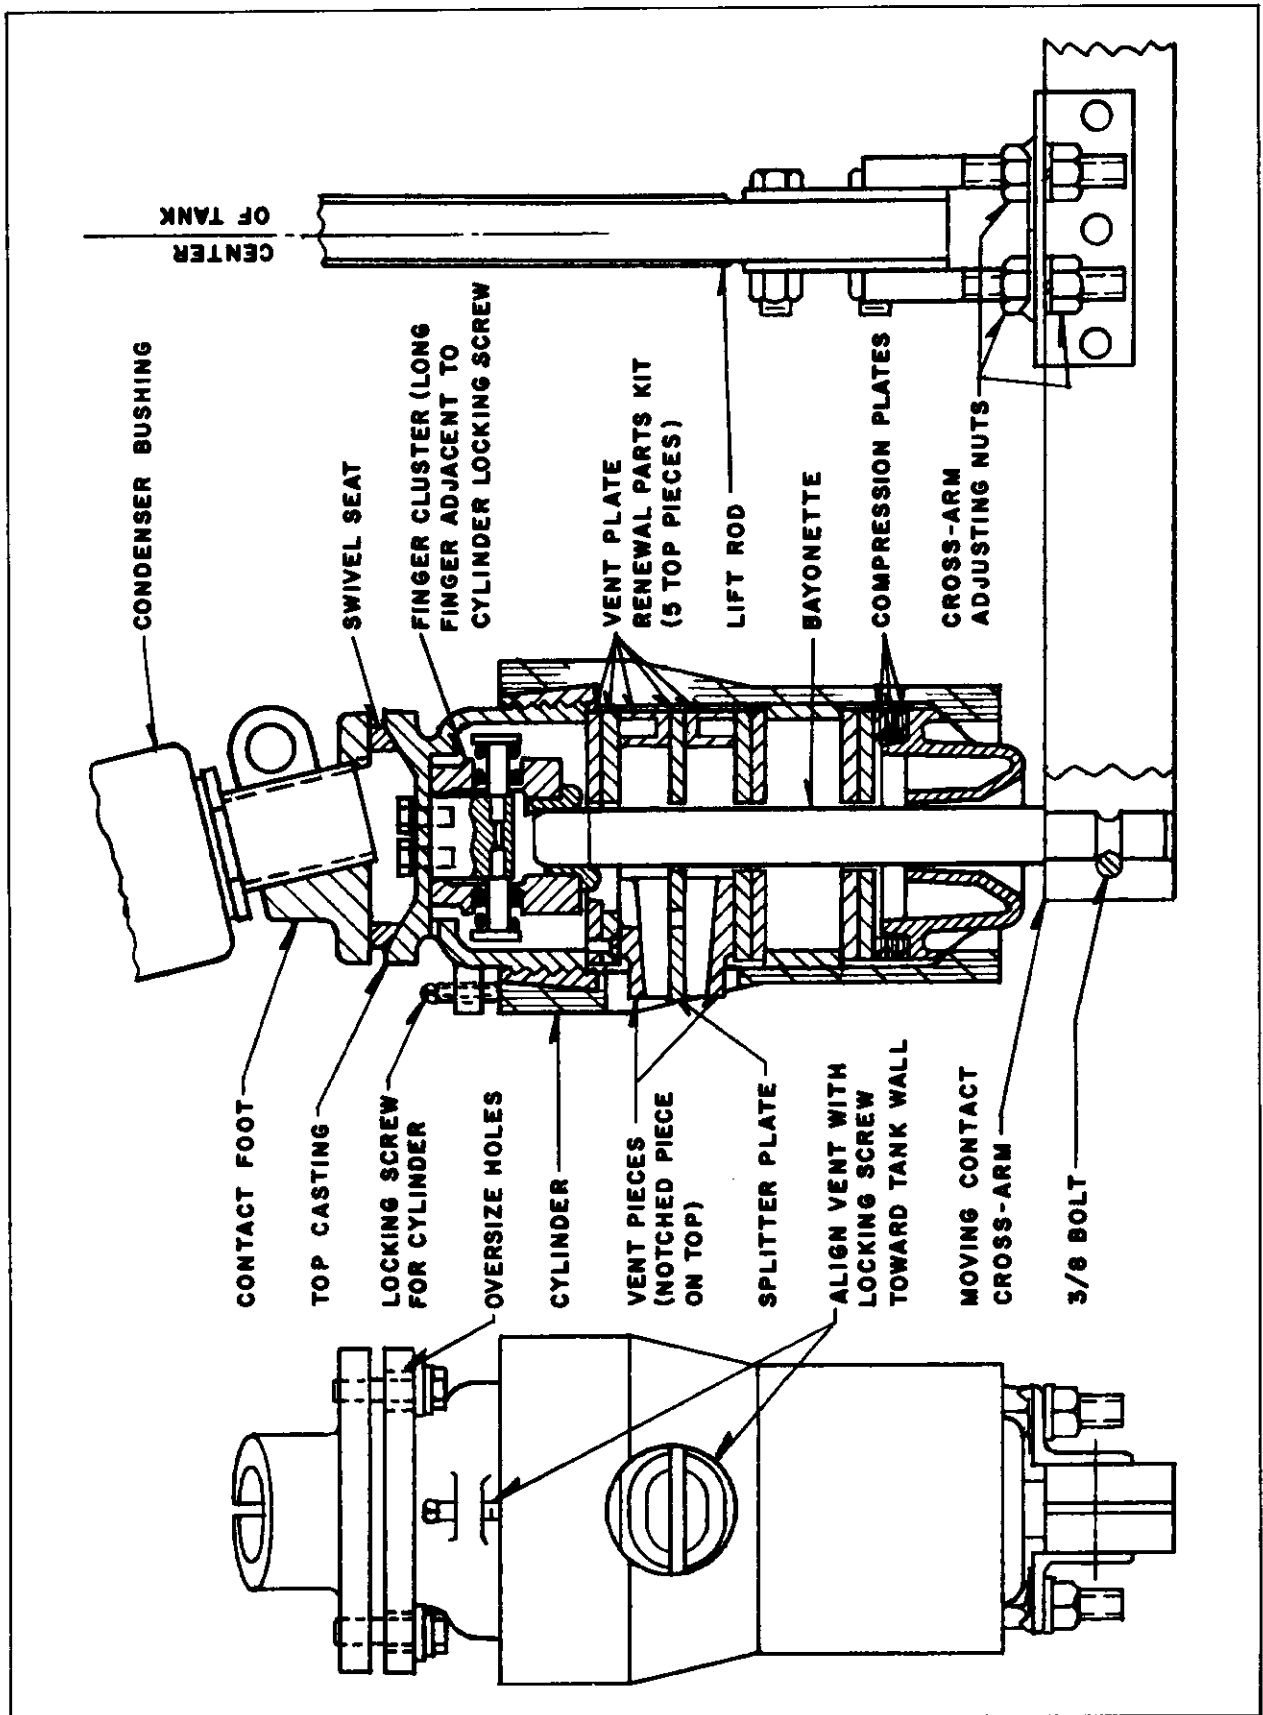

Fig. 5. Interrupter and Contact Assembly
The Westinghouse "De-ion" Grid Interrupter Function - Fig. 5
Interrupter Assembly - Fig. 5
Moving Contact Assembly - Fig. 5
5. Inspect the stationary contact fingers for erosion by removing the interrupter cylinder and the two fibre plates that are fastened to the top casting with two flat-head screws. Ref. Fig. 5. Fingers suitable for reconditioning may then be dressed in place. If replacement is required, first remove the top casting from the contact foot and then remove the two bolts on top which hold the finger cluster in place. When replacing the finger cluster, make sure the long finger is positioned adjacent to the set screw used to lock the cylinder.
attached to the top casting, the two molded vent pieces, and the fibre splitter plate. When assembling these pieces be sure to place the notched vent piece on top as shown in Fig. 5.